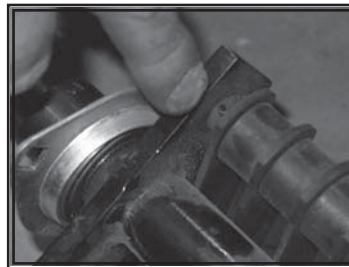

Fig.5: Spring Clip Location
3. Remove bearing kits and spring clips (Fig 5.) from either side of rotor.